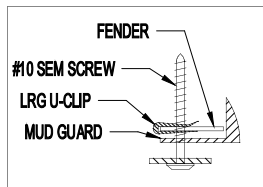

Figure 1
2. Install U-Clip at location D. U-Clip should clip over fender. (Figure 1)